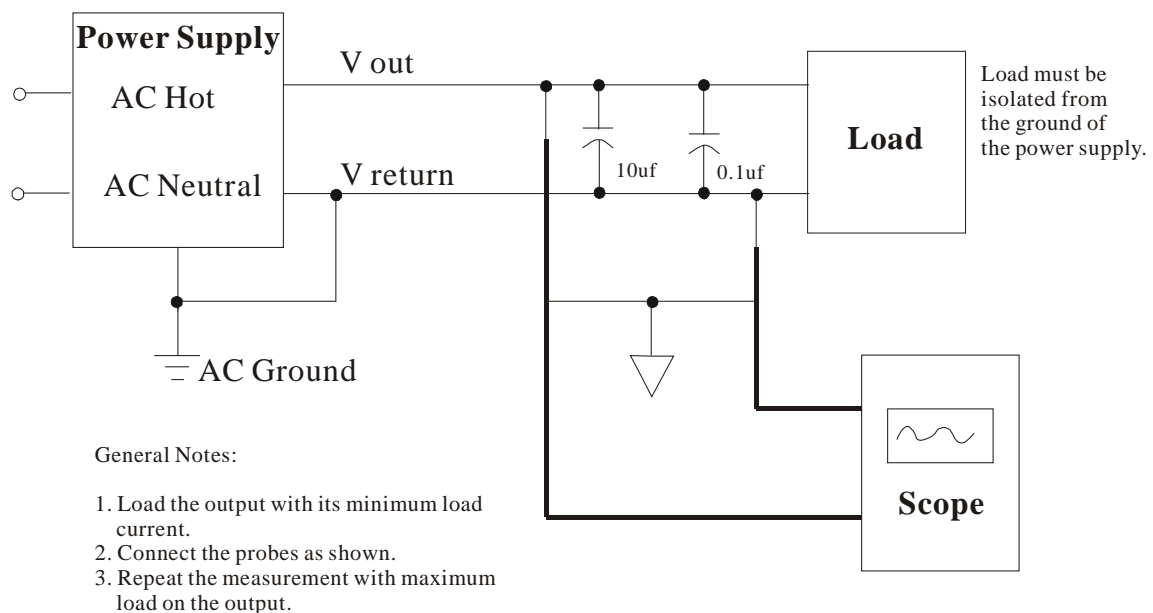

Figure 1. Differential Noise Test Setup
- C. Ripple and noise measurements shall be made under all specified load conditions through a single pole low pass filter with 20MHz cutoff frequency. A 0.1uF ceramic disk capacitors in parallel with a 10uF tantalum are placed at the point of measurement. See Figure 1.